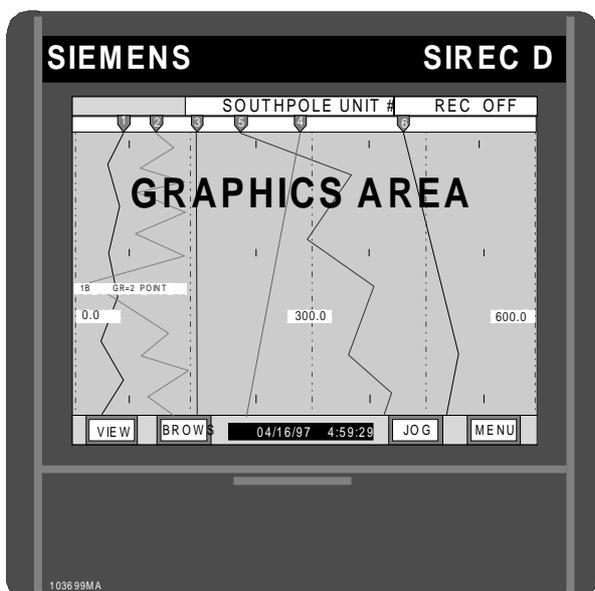

Figure 3-1 Recorder and Screen
picting the button to activate the function. If the buzzer is turned on, the unit will provide audible feedback, as a short beep, each time a “button” press is registered. The default display is shown in Figure 3-1. Commands initiated from the keyboard activate direct functions or enable access to various menus and prompts. A definition of each
C. Graphics Area - The Graphics display area can be either a full screen of information, or the screen may be split, showing combinations of the primary screens to be displayed. These views might be charts, bargraphs, digital or Alarm information. The different views are selected via the VIEW Button in the Button Bar (see Figure 3-1).